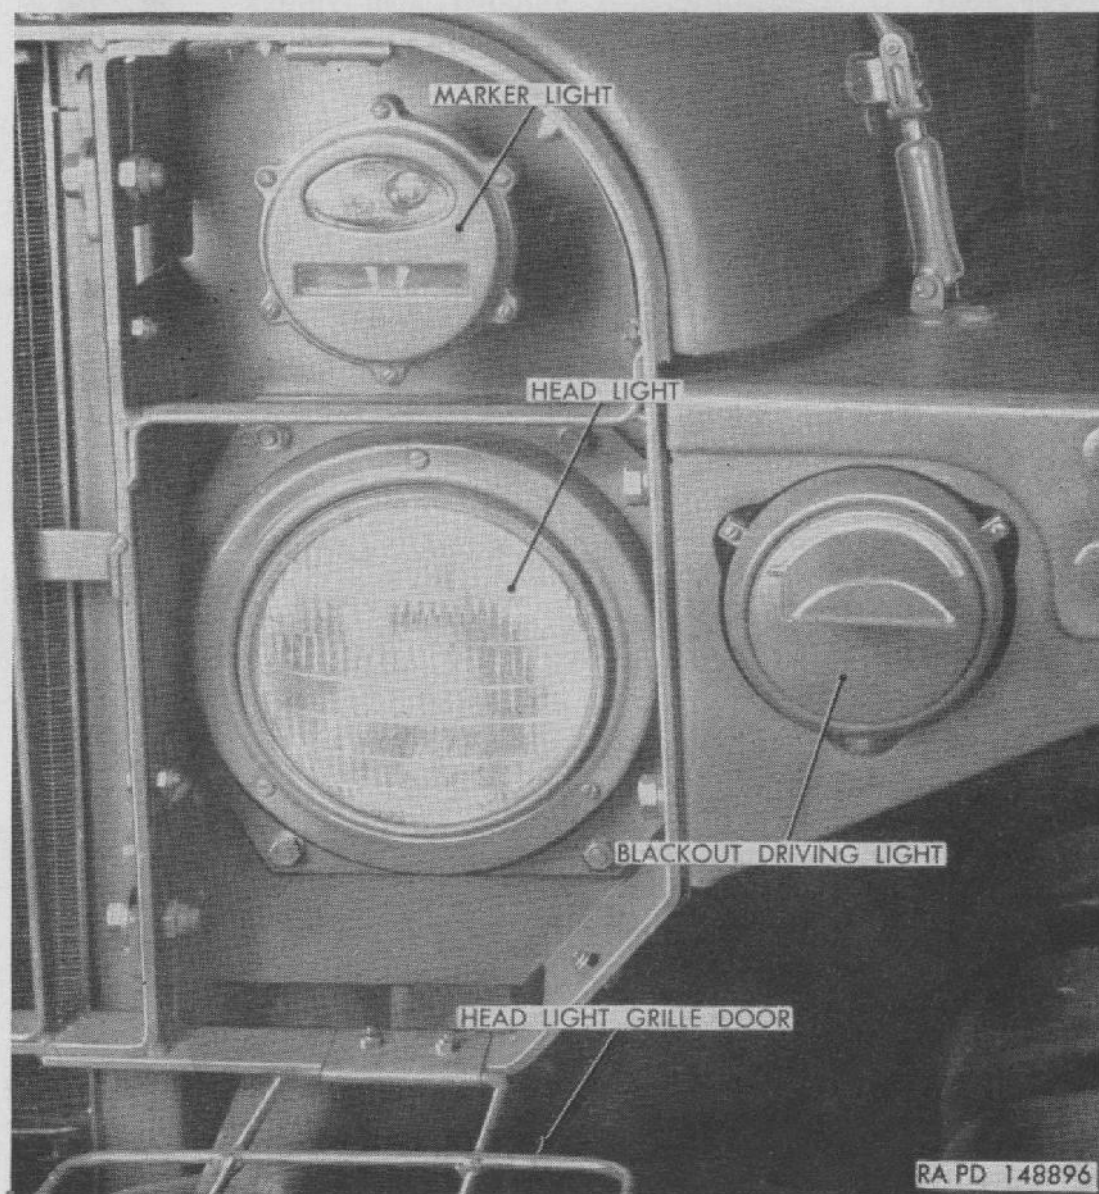

Figure 86. Front lights installed (left side shown).
by head-light-grille doors hinged to radiator brush guard (fig. 86). Head lights are equipped with double-filament sealed-beam lamp units to provide high and low light beams for driving under normal conditions. Upper and lower beams are selected with foot-operated dimmer switch when head light circuit is energized by main light switch (par. 42). Head lights are secured to mounting plates which are attached to radiator side baffles through shockproof mountings consisting of studs with integral rubber insulators. Studs are secured in radiator side baffles by lock washers and nuts at rear side baffles. Head light mounting plates are secured on studs by lock washers and nuts.
e. **BLACKOUT DRIVING LIGHT.** Blackout driving light is mounted in a panel below front end of left-hand fender (fig. 86). This light produces a diffused light beam to permit limited illumination when driving under blackout conditions. Blackout driving light is controlled by main light switch (par. 42).
f. **FRONT MARKER LIGHTS.** Front marker lights are mounted above each head light at sides of radiator (fig. 86). Each marker light contains three lamps (bulbs) (fig. 88); however, only two lamps in each marker light are used on these vehicles. The upper half of each light serves as a service parking light; the lower half, having a special lens which produces a diffused light beam, is used as a blackout marker light. Marker lights are controlled by main light switch (par. 42).
- (2) *Installation.*
- (c) Position head light and mounting plate assembly on studs in radiator side baffle and secure with four nuts and lock washers (fig. 86).